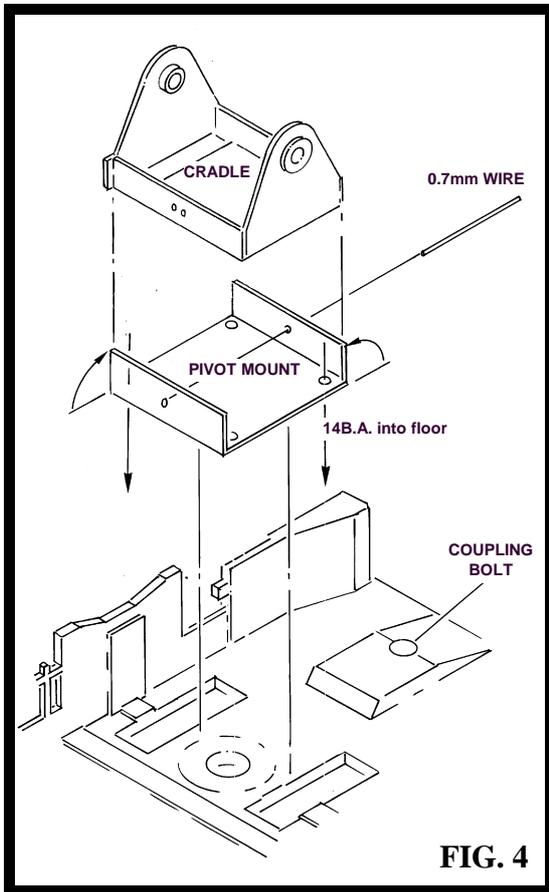
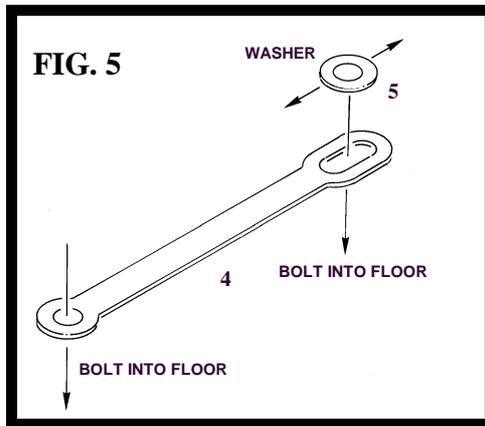

FIG. 4
FIG. 5
Fit wheels and washers to the rocking axle and then offer this assembly up to its location as shown in Figure 4. Use a small amount of glue to temporarily fix it in place. Now place the model on a level surface and check the position of the wheels in relation to the axlebox centre. Make any necessary adjustments to the position of the assembly and then carefully remove the pivot wire. With the pivot mount still glued in place on the floor, spot through two of the four corner holes, countersink the holes in the etch slightly, and secure the mount with 14BA countersunk bolts pushed up through the floor. Refit the wire and secure at one end with glue. If necessary, the ride height can be adjusted by shimming under the pivot mount. Repeat with the axle units for the non-powered trailer car.
The effective distance between pivot centres on the **coupling** (5) (shown in Figure 5) can be adjusted to suit the curves on your layout. For tight curves, solder the washer near the outermost end of the slot and for generous curves towards the inner end. If possible, fix the washer (6) temporarily in place and try the two-car set around your curves. Attach either end of the coupling bar to the chassis with suitable sized bolts through the holes in the floor (see Fig. 4). For double insurance and very little extra effort, we suggest you fit pick-ups to the non-powered trailer car as well. You can improvise plug-and-socket connections between the cars using short lengths of brass capillary tube, and arrange the wires to simulate **jumper cables**.